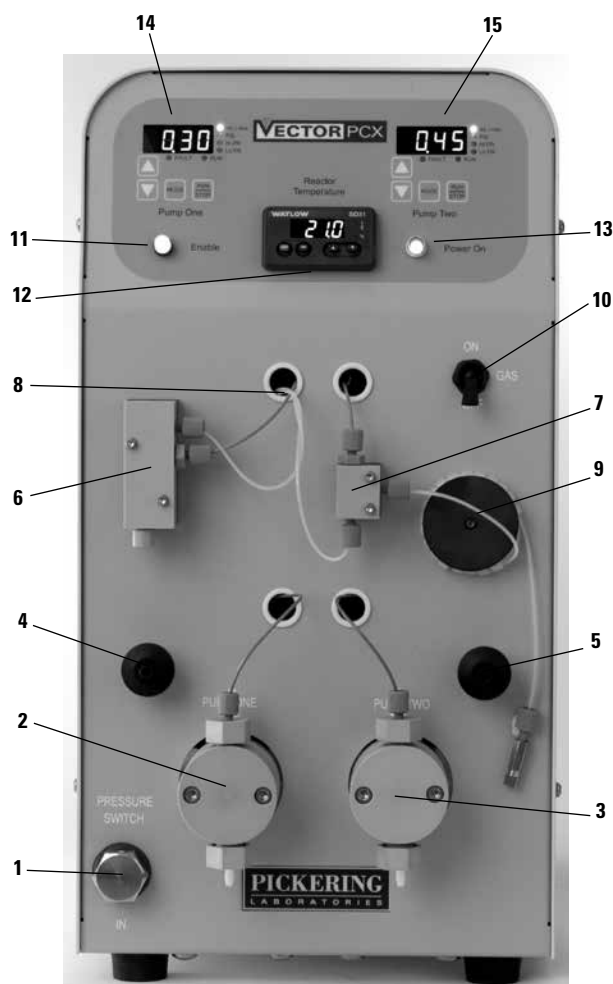

Figure 2-1
The front panel is the busiest area of the instrument. Everything that you need is located on the front of the panel. Refer to Figure 2-1 for parts identification throughout the next section.
Gas is controlled by the toggle valve (No. 10 on figure 2-1). Lever ON allows the flow of gas to the reagent reservoirs.
1. Display and control pads for adjusting the flow rates and monitoring the pressure of each pump (Items 14 and 15 on Figure 2-1)
2. Displays and control pad for heated reactor temperature or set point (Item 12 on Figure 2-1)
3. Enable Button (Item 11 on Figure 2-1). An Orange LED that is illuminated when there is 500psi of pressure reading on the Pressure Switch. Used to bring up the pump and reactor displays, and also start heating the reactor prior to turning on the reagent pumps.